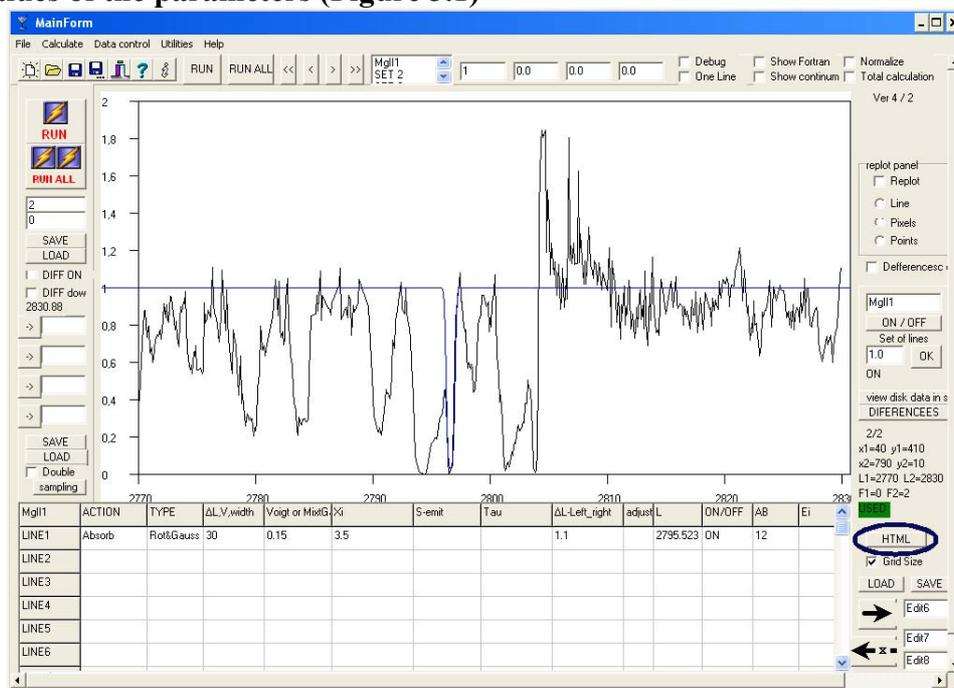

Figure 3.1
b) Values of the parameters (Figure 3.1)
Click on the **HTML** button (Figure3.1). In order to save this file, on the **File** menu, click **Save as...** This file exists in the folder C:/DMVL, with the name fsmOut.htm. This file should always be in the folder C:/DMVL. You may copy this file in any other folder. This file includes the final figure with the observed and the theoretical profile of the spectral line, as well as all the calculated values of the parameters.